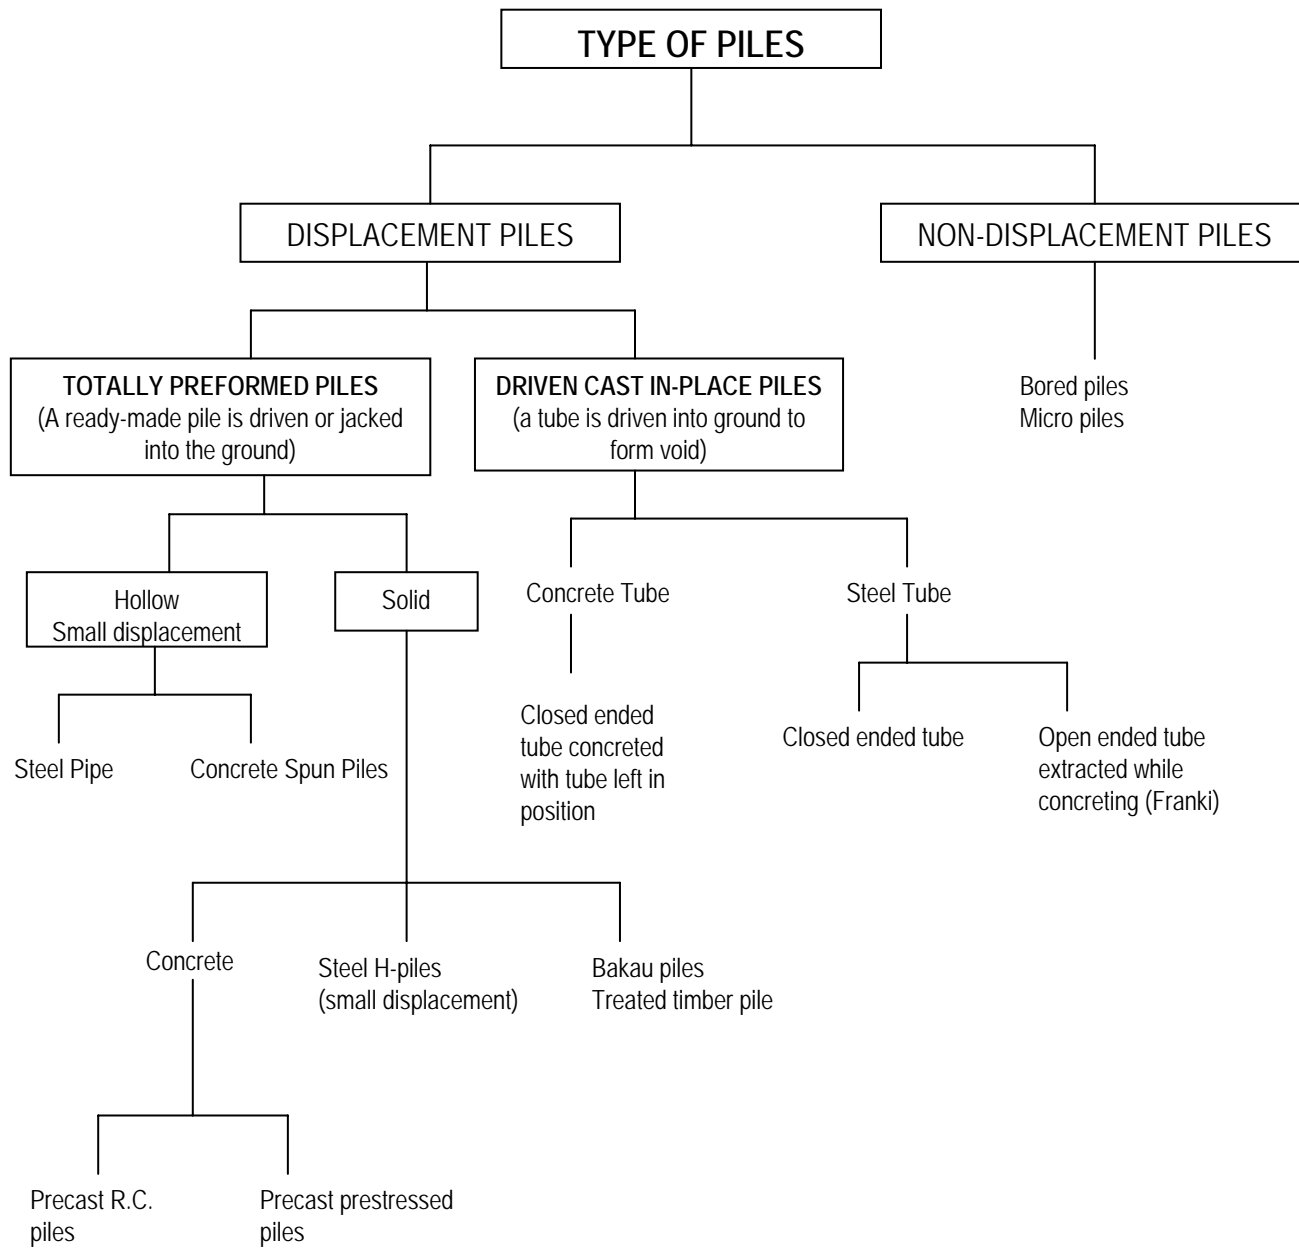

FIG 1: CLASSIFICATION OF PILES
- Types of Piles Available in Market (see Fig. 1)